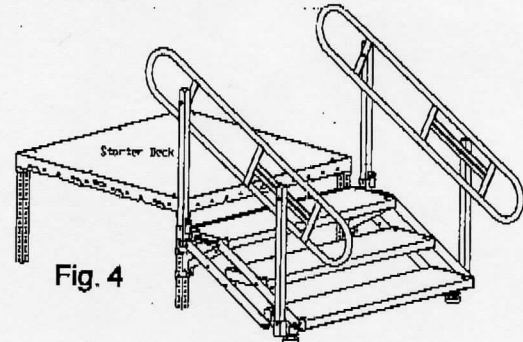

Fig. 4
2) Drop Step - Starter Deck "A" Location (Fig.4) -Lower step to desired step height (code is 4"-7").